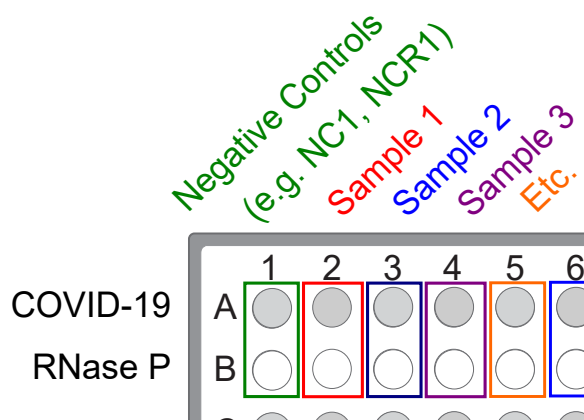

Figure 2 Paired sample and Negative Control wells for each assay
- b. Unseal the extraction plate, then add the Negative Control from the single well of the extraction plate to wells A1 and B1 of the reaction plate, as shown in Figure 2 on page 50.